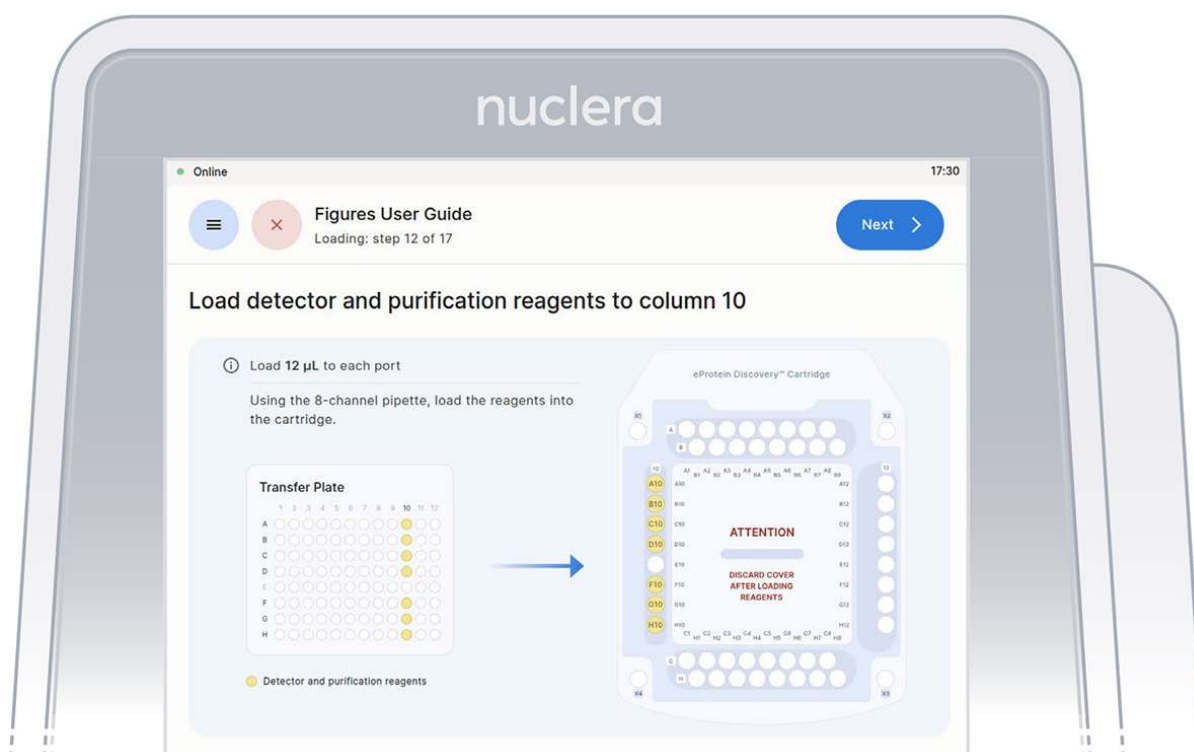

Figure 21: Loading of the reagents onto column 10 of the cartridge
3. Reagents - column 10: ▷ Load 7x fresh p20 pipette tips and aspirate 12 µL of the reagents from the transfer plate wells A10-D10 and F10-H10 into ports A10-D10 and F10-H10 of the cartridge (Figure 21). ▷ Ensure the tip is immersed in the base fluid and dispense slowly until the first stop of the pipette is reached. Do not engage the pipette tips fully into the ports. ▷ Eject the pipette tips into a waste container. ▷ Press the [Next] button on the screen.